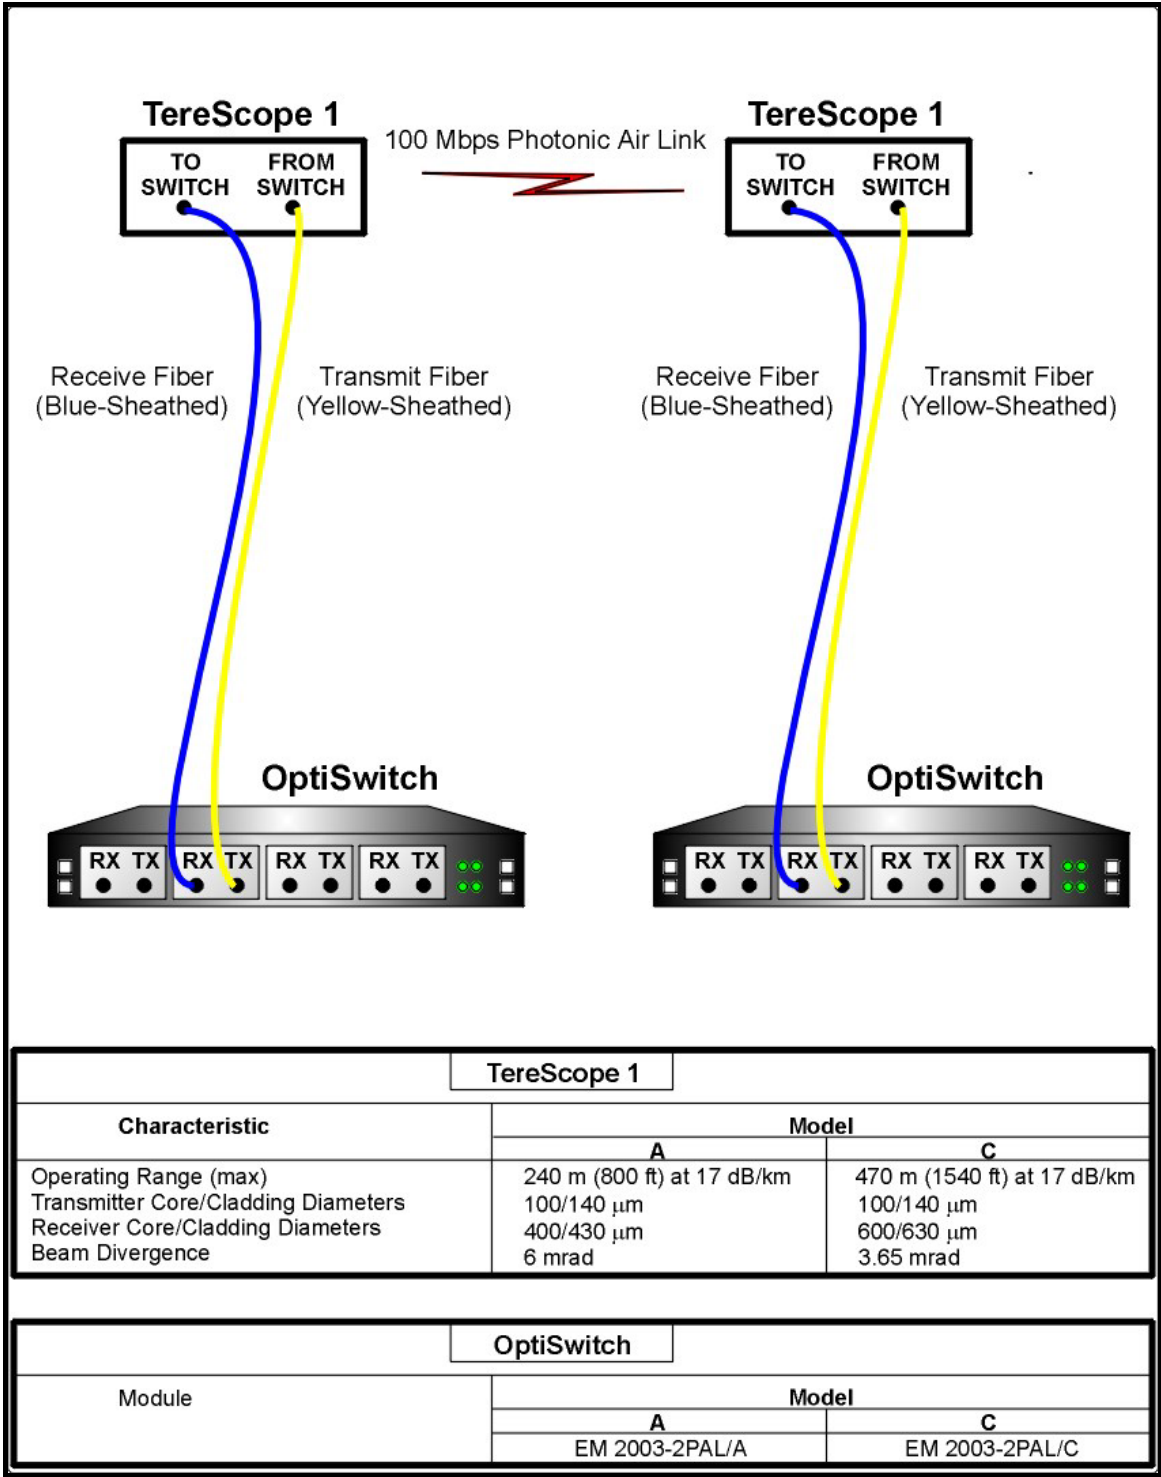
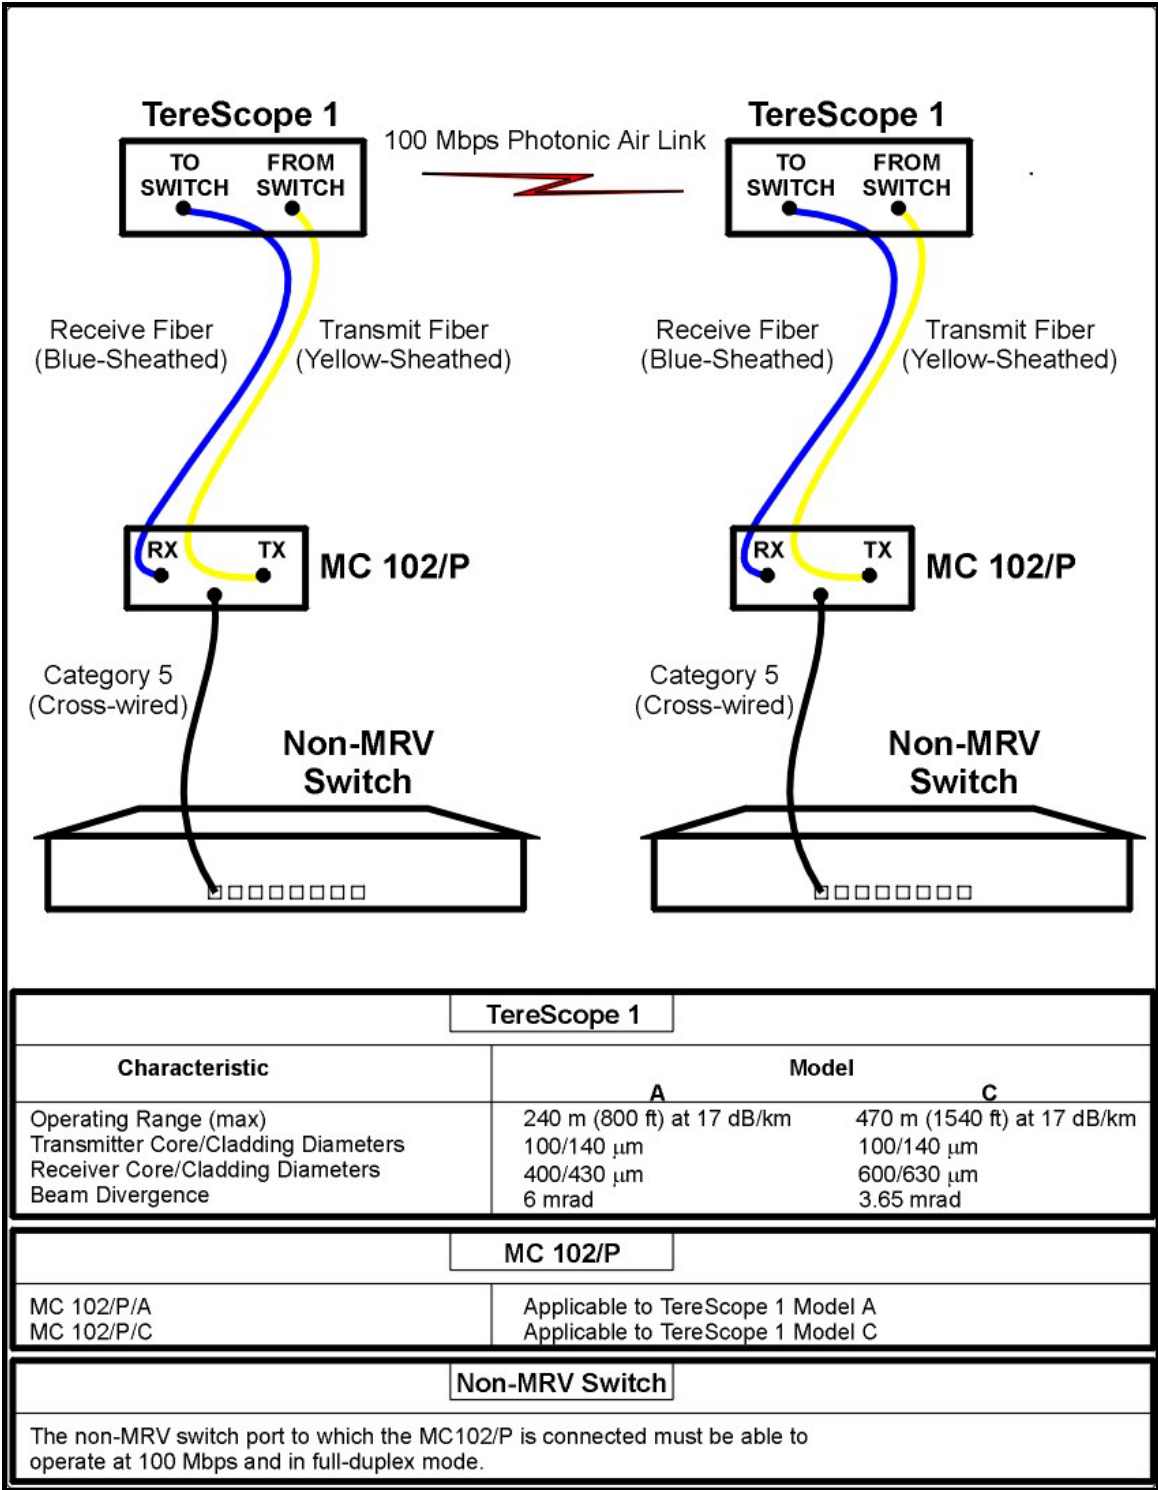

Figure 29: Interconnection of TereScope 1s and OptiSwitches
Figure 30: Interconnection of TereScope 1s, Media Converters, & Non-MRV Switches
- a. Connect one end of the yellow-sheathed cable to an OptiSwitch module or Media Converter and the other end to the TereScope 1's **FROM SWITCH** connector, as shown in *Figure 29* and *Figure 30*
8. If you have MRV9 OptiSwitches, connect the TereScope 1s as shown in *Figure 29*.
If you do not have OptiSwitches, connect the TereScope 1s to switches via MRV MC102/P as shown in *Figure 30*.
In the network in Figure 29, perform ping test for the remote OptiSwitch to check if link connectivity is OK.
In the network in Figure 30, perform ping test for the remote Non-MRV switch to check if link connectivity is OK.